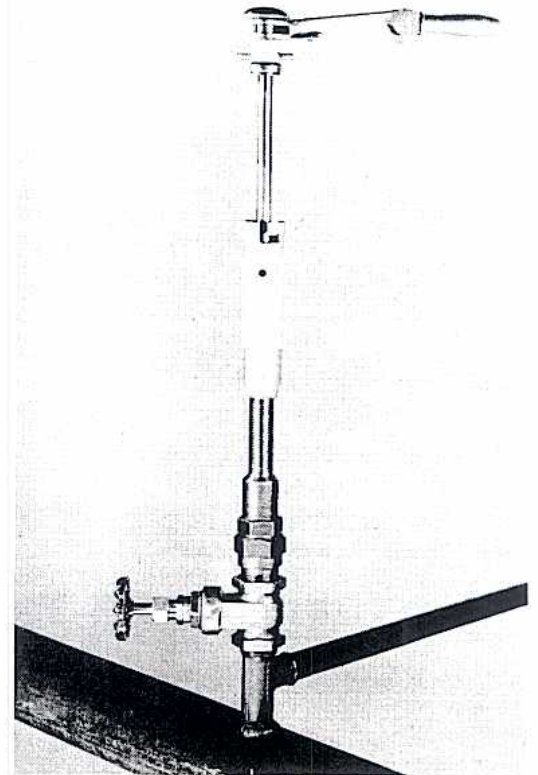

FIGURE 13
7. If using a gate valve place the drilling machine on gate valve and tighten machine adapter nipple into gate valve. FIGURE 13.